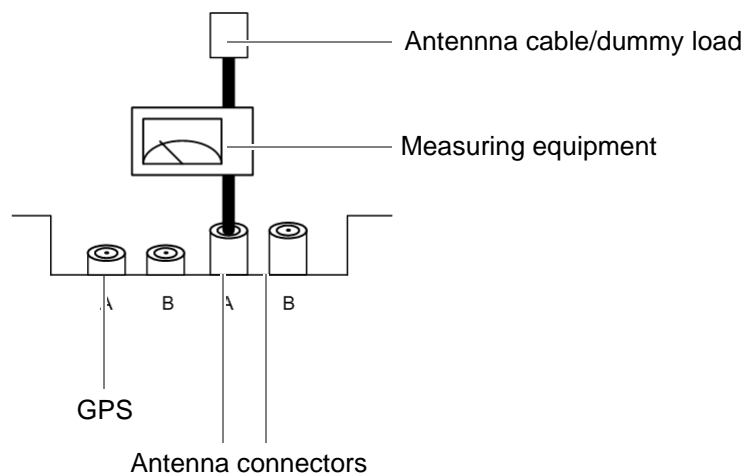

Figure 6.5 Connected measuring equipment
4. Plug the connecting cable of the respective measuring probe including the adapter into the free antenna connector, refer to Figure 6.5.
5. Connect the antenna cable to the adapter of the measuring probe. Alternatively, connect a dummy load (50 Ω), refer to Figure 6.5.